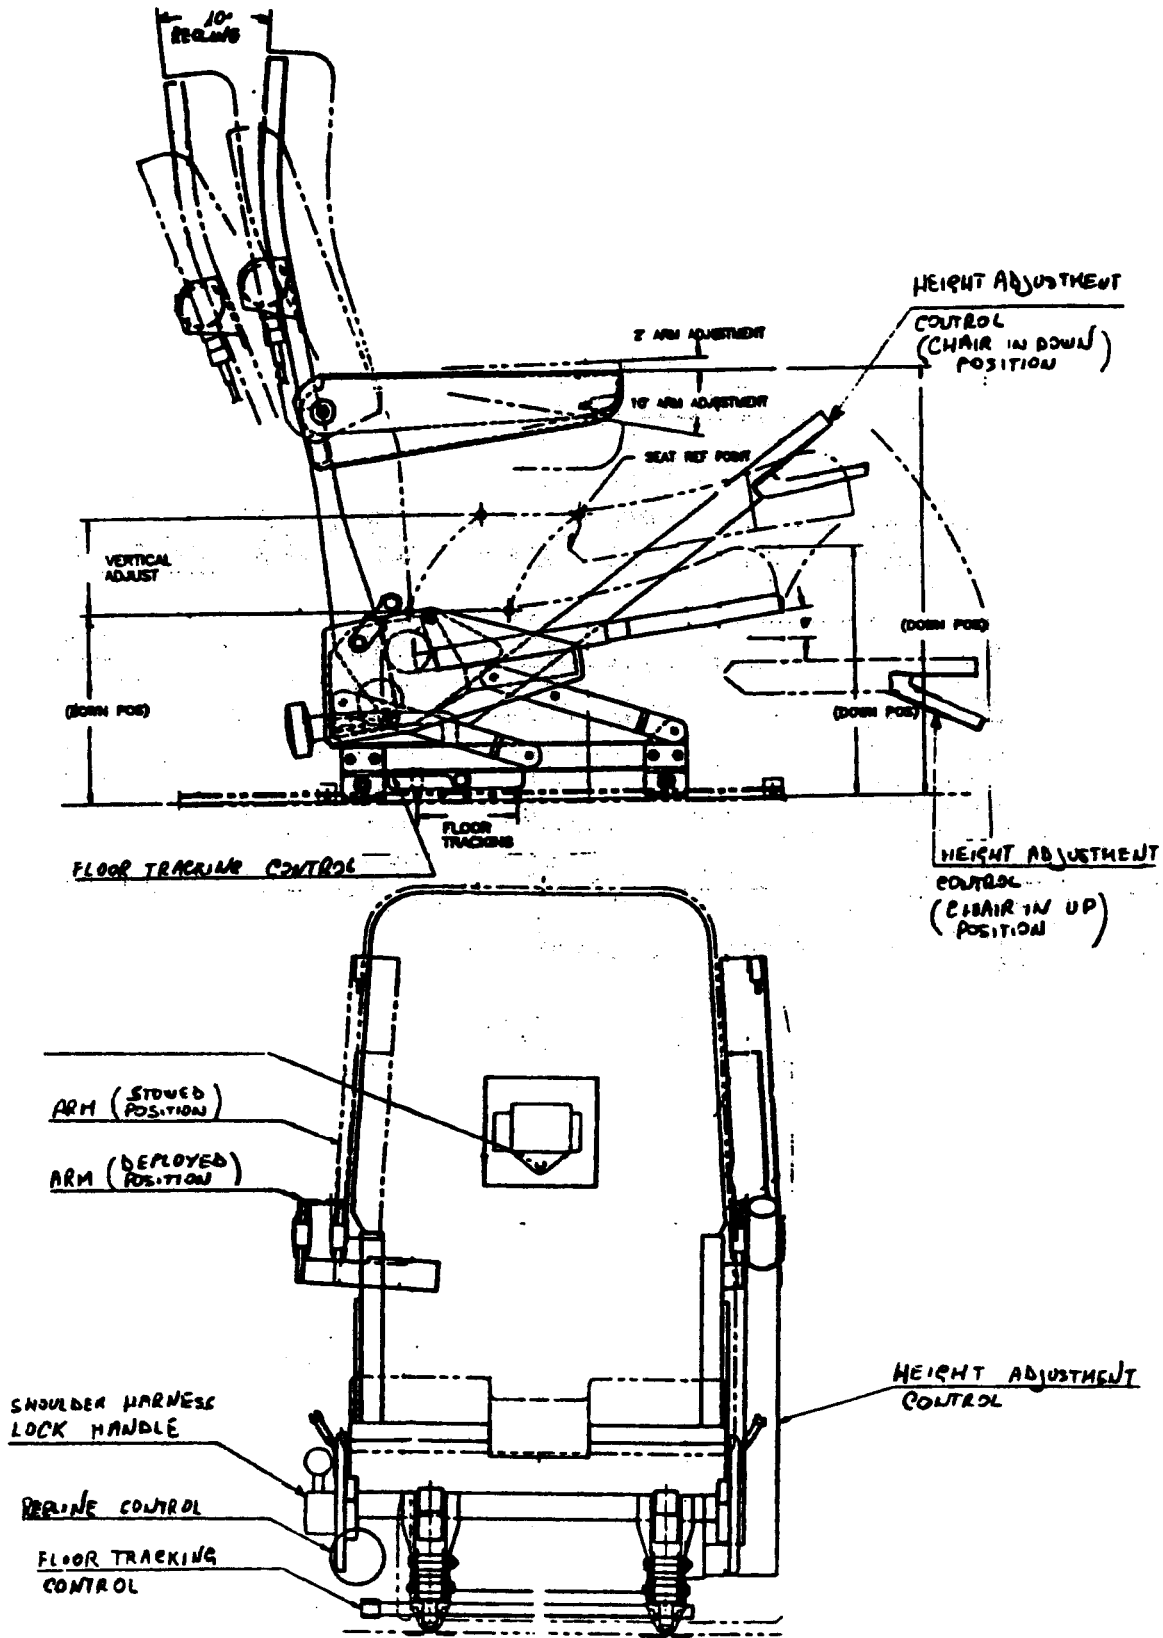

Fig. 205 - Pilot and Copilot Seat - Adjustment
10. Pilot/Copilot Seat - Adjustment (Ref. to Fig. 205)